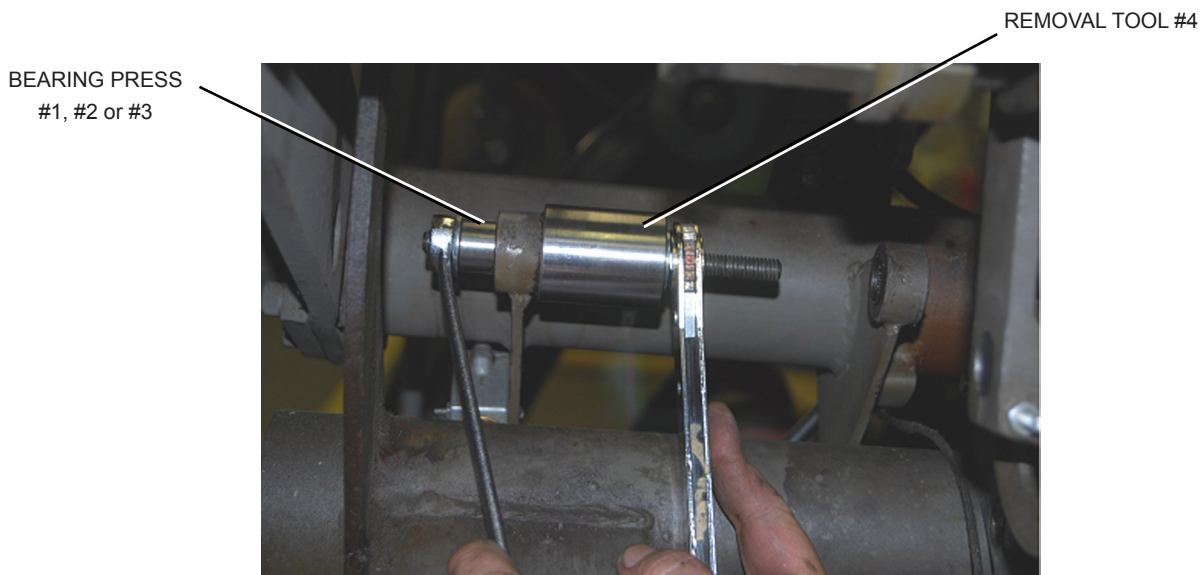

Figure 16
11. Using the Bearing Removal Tool and two 9/16" combination or ratchet wrenches, the left hand needle bearing can now be removed (the bearing will be pressed into tool #4). Refer to *Figures 16 and 17*